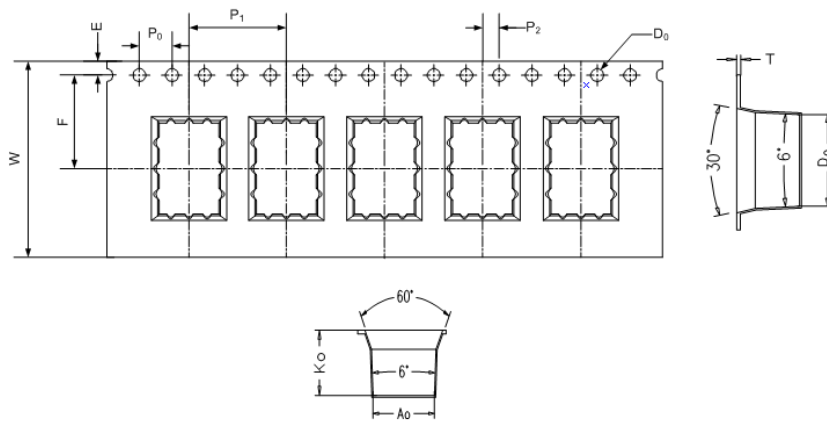

Fig. 9.1.1-1
1) Carrier tape dimensions (Please refer to **Fig. 9.1.1-1** and **Table 9.1.1-1**)